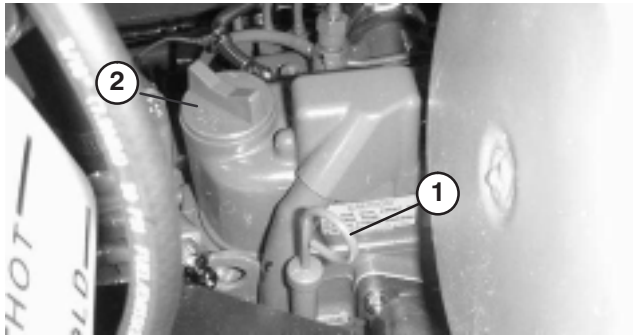

Figure 13
2. Remove dipstick (Fig. 13), wipe clean and reinstall dipstick. Remove dipstick and check oil level. Oil level should be up to FULL mark on dipstick